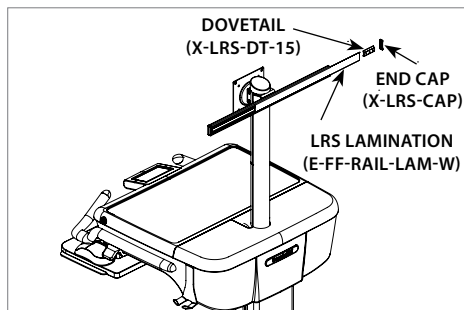
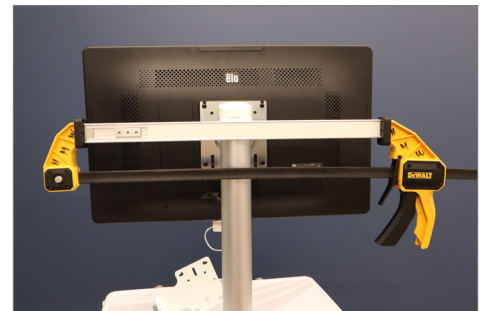

Figure 24
Figure 25
- First slide the **LRS LAMINATION (E-FF-RAIL-LAM-W)** into the **PERCH RAIL (HMA-PR-A-18)**, followed by the **DOVETAIL (X-LRS-DR-15)**, then close the **PERCH RAIL (HMA-PR-A-18)** with a new **END CAP (X-LRS-CAP)** from the **END CAP HARDWARE KIT (HMA-PR-ADJ-KIT)** or **SERVICE KIT (HMA-PR-ADJ-KIT)** (**Figure 24**), using the trigger clamp (**Figure 25**).